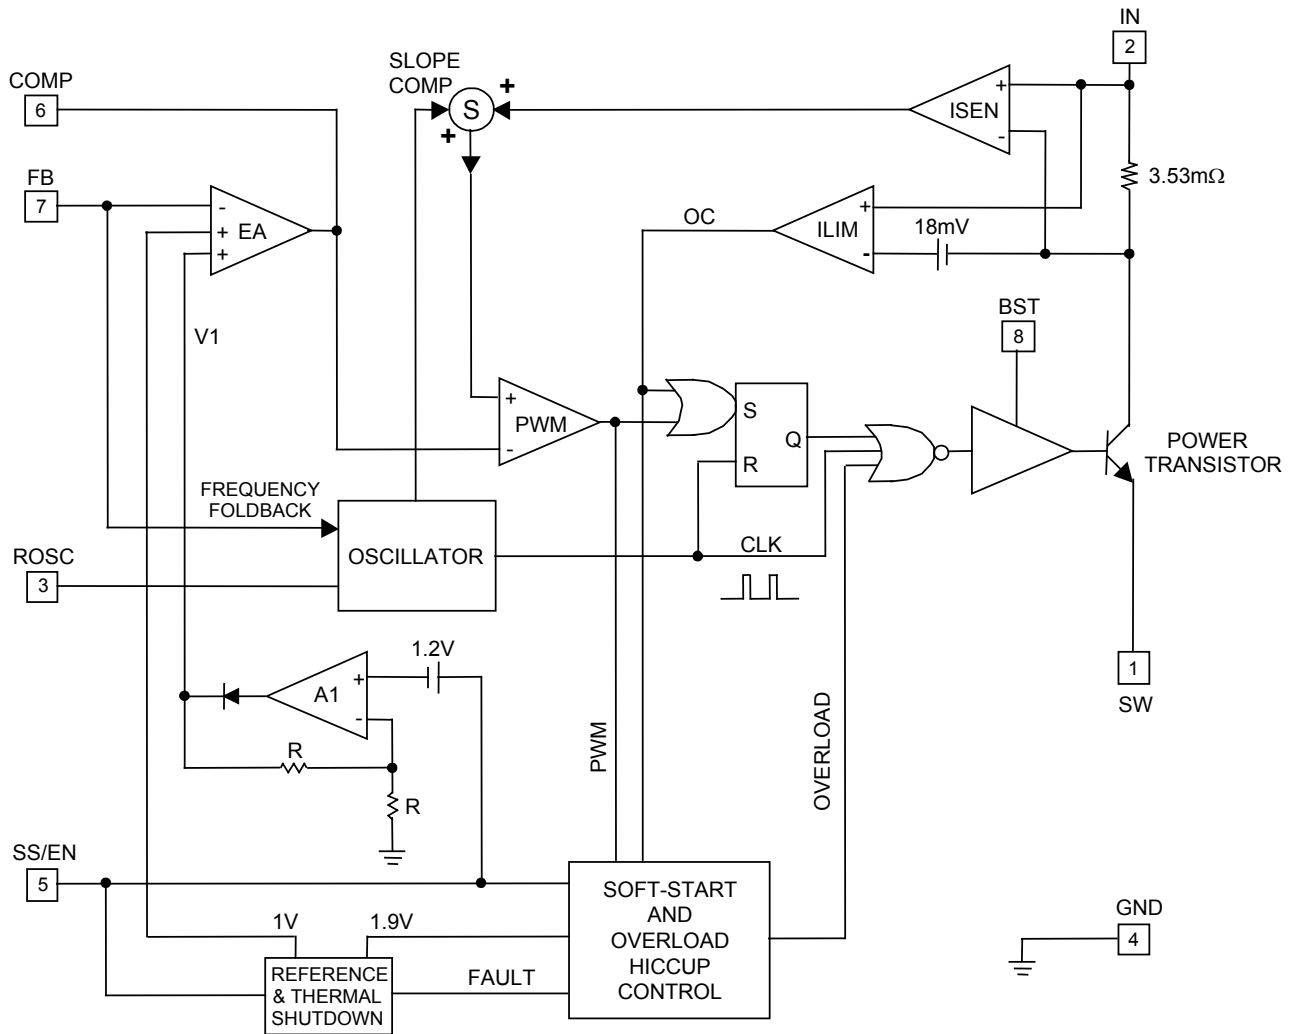

Figure 2 — SC4525C Block Diagram
As shown in Figure 2, the switch collector current is sensed with an integrated 3.53mΩ sense resistor. The sensed current is summed with a slope-compensating ramp before it is compared with the transconductance error amplifier (EA) output. The PWM comparator trip point determines the switch turn-on pulse width. The current-limit comparator ILIM turns off the power switch when the sensed signal exceeds the 18mV current-limit threshold.
The error amplifier EA in Figure 2 has two non-inverting inputs. The non-inverting input with the lower voltage predominates. One of the non-inverting inputs is biased to a precision 1V reference and the other non-inverting input is tied to the output of the amplifier  $A_1$ . Amplifier  $A_1$  produces an output  $V_1 = 2(V_{SS/EN} - 1.2V)$ .  $V_1$  is zero and COMP is forced low when  $V_{SS/EN}$  is below 1.2V. During start up, the effective non-inverting input of EA stays at zero until the soft-start capacitor is charged above 1.2V. Once  $V_{SS/EN}$  exceeds 1.2V, COMP is released. The regulator starts to switch when  $V_{COMP}$  rises above 0.4V. If the soft-start interval is made sufficiently long, then the FB voltage (hence the output voltage) will track  $V_1$  during start up.  $V_{SS/EN}$  must be at least 1.83V for the output to achieve regulation. Proper soft-start prevents output overshoot. Current drawn from the input supply is also well controlled.
becomes armed. As the load draws more current from the regulator, the current-limit comparator ILIM (Figure 2) will eventually limit the switch current on a cycle-by-cycle basis. The over-current signal OC goes high, setting the latch B3. The soft-start capacitor is discharged with (ID - IC) (Figure 3). If the inductor current falls below the current limit and the PWM comparator instead turns off the switch, then latch B3 will be reset and IC will recharge the soft-start capacitor. If over-current condition persists or OC becomes asserted more often than PWM over a period of time, then the soft-start capacitor will be discharged below 1.9V. At this juncture, comparator B4 sets the overload latch B2. The soft-start capacitor will be continuously discharged with (ID - IC). The COMP pin is immediately pulled to ground. The switching regulator is shut off until the soft-start capacitor is discharged below 1.0V. At this moment, the overload latch is reset. The soft-start capacitor is recharged and the converter again undergoes soft-start. The regulator will go through soft-start, overload shutdown and restart until it is no longer overloaded.
The PWM latch in Figure 2 is reset every cycle by the clock. The clock also turns off the power transistor to refresh the bootstrap capacitor. This minimum off time limits the attainable duty cycle of the regulator at a given switching frequency. The measured minimum off time is 100ns typically. If the required duty cycle is higher than the attainable maximum, then the output voltage will not be able to reach its set value in continuous-conduction mode.